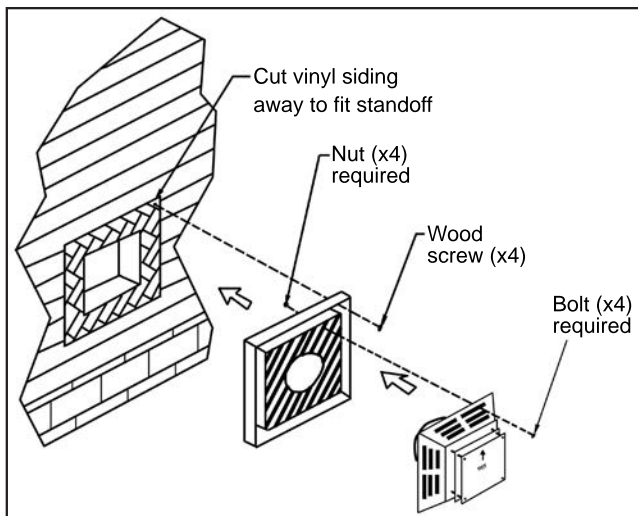

Figure 26: Installing Vent Cap with Vinyl Siding Stand-Off.
6. Slide the appliance and vent assembly towards the wall, carefully inserting the vent pipe into the cap assembly. It is important that the vent pipe extend into the vent cap a sufficient distance with a minimum of 1¼" (3.2cm) overlap. Secure the connection between the vent cap pipe and the vent cap by attaching the two sheet metal straps extending from the vent cap assembly into the outer wall of the vent pipe. Use the two sheet metal screws provided to connect the straps to the vent pipe. Bend any remaining portion of the sheet metal straps back towards the vent cap, so the decorative wall thimble will conceal it (see left image in Figure 26).
7. Slide the decorative wall thimble up to the wall surface and attach with the screws provided. Apply decorative brass or chrome trim if desired (see right image in Figure 26).